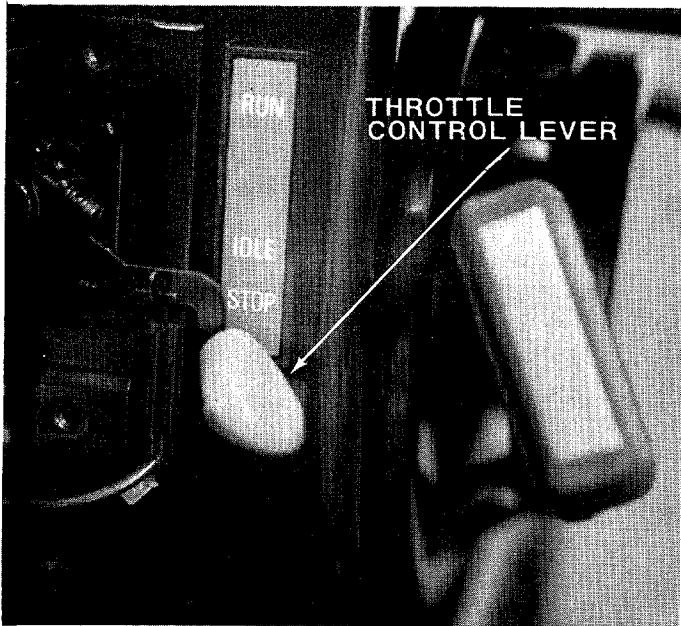

FIGURE 6
- Place control lever (on engine) in run position. See figure 6.
- Move control lever to STOP position. See figure 6.